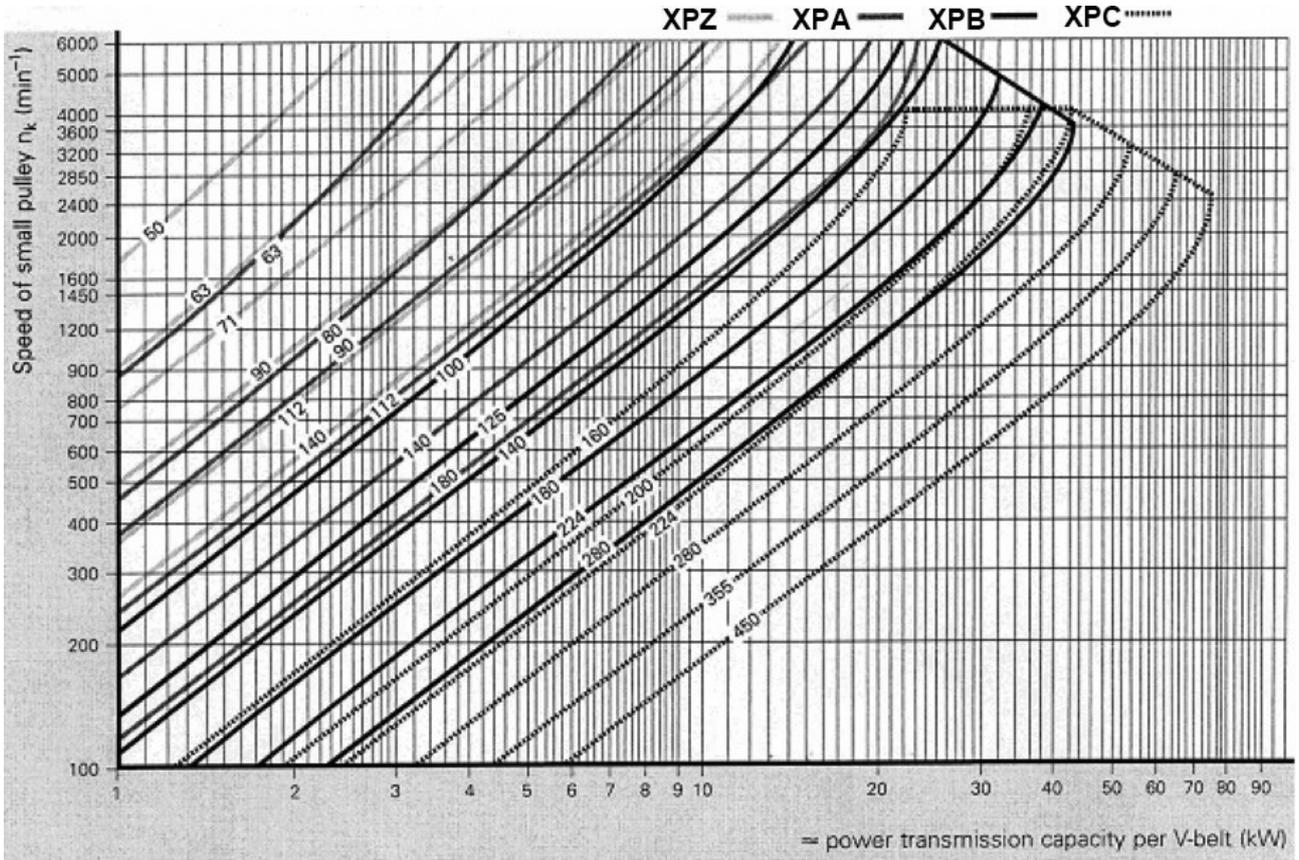
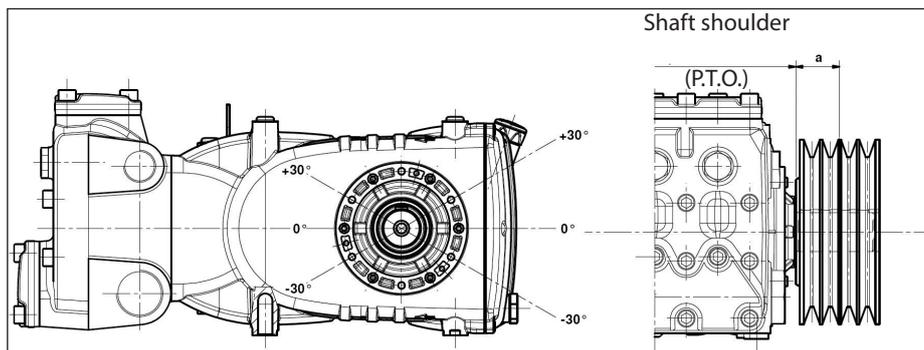

Fig. 8
Fig. 11
For this pump model, we recommend to use No. 4 XPB belts (16.5x13 serrated). Use an XPC profile only for long durations. Both the characteristics and transmissible power of each belt can be verified in the diagram in Fig. 8, in relation to the number of rpm normally declared by the manufacturer. Minimum duct pulley diameter (on pump shaft):  $\geq 250$  mm. The radial load on the shaft must not exceed 7500 N (value necessary for Layout definition). The transmission is considered adequate if the load is applied to a maximum distance  $a=40$  mm from the shaft shoulder (P.T.O) as shown in Fig. 11.
- b) Use high performance belts – for example **XPB** instead of **SPB** – as a lower quantity of belts for the same transmitted power may be necessary and a consequent shorter resulting distance compared to the shaft shoulder (P.T.O) "a" of Fig. 11.
- e) Follow the direction of the belt pull as shown in Fig. 11 for other needs, contact our **Technical** or **Customer Service Department**.